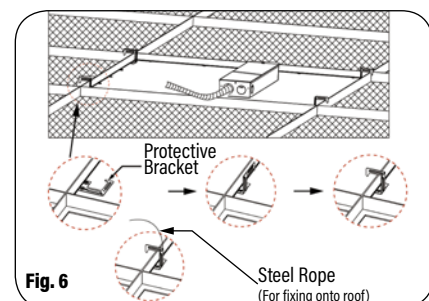

Fig. 6
2. Insert luminaire into T-bar ceiling grid. Secure safety cable to connection hole as needed to meet local seismic requirements. (Fig. 6)